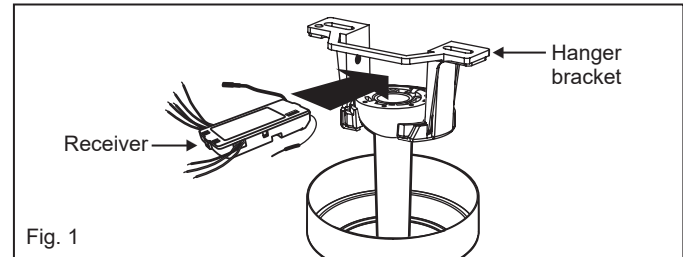

Fig. 1
- 1 Remove ball from downrod by loosening set screw in the side of the ball. Slide ball down and remove cross pin; remove ball. (Fig. 1)
1. Insert the controller into the ceiling mounting bracket with the flat side of the controller facing the ceiling. (Fig. 1) For best performance, make sure the Black Antenna and WiFi Antenna, on the end of the controller, remains extended and not tangled with any of the electrical wires.
- 1 Align the blade arm holes to the fan motor and secure with screws and lock washers provided; tighten screws securely. (Fig. 1)